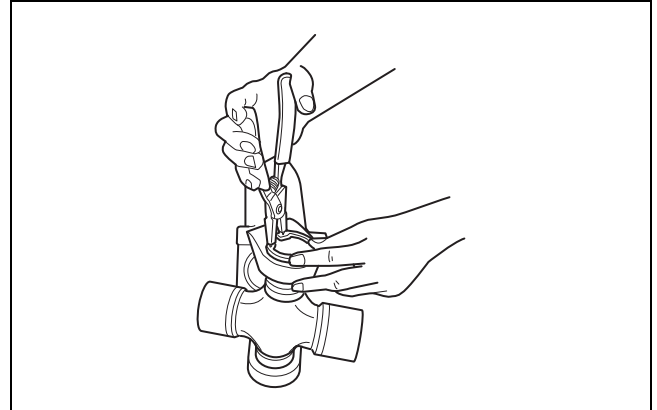

Figure 8.28
- Use snap ring pliers to install the second snap ring into the snap ring groove. Figure 8.28.